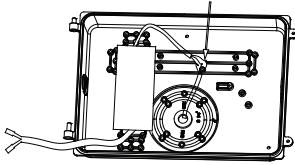

Figure 4
4. Make wiring connections per “Electrical Connections” section and make sure the good wire protection. (Figure 4)